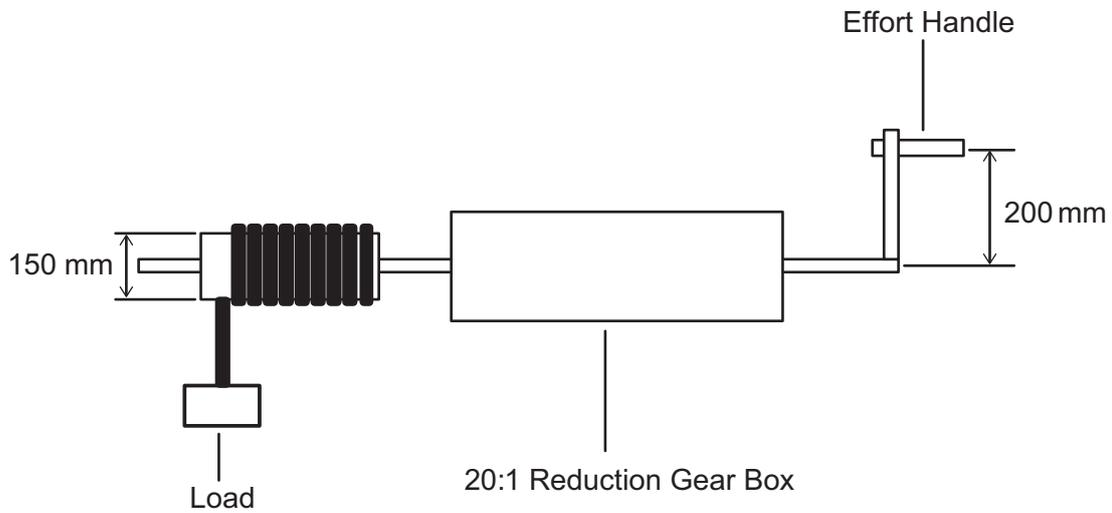
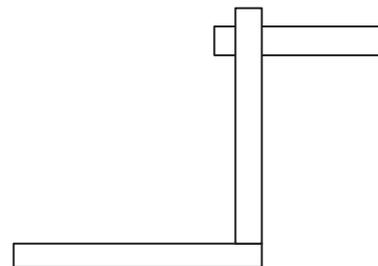

Fig. 9
Fig. 10
- (d) Fig. 9 shows a winch used for raising loads. The load drum is driven through a gearbox which gives a 20:1 reduction in speed.
(iv) Complete **Fig. 10** to produce a 2D sketch showing a suitable gear arrangement for the gearbox in **Fig. 9**. Gears should be selected from those listed below.